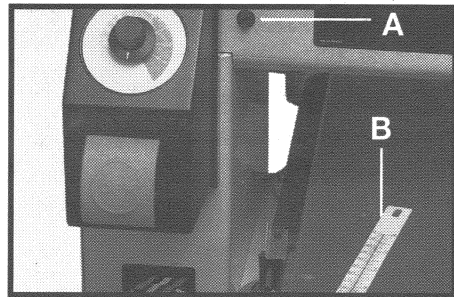

Fig. 7
1. Remove screw and washer (A) Fig. 7.